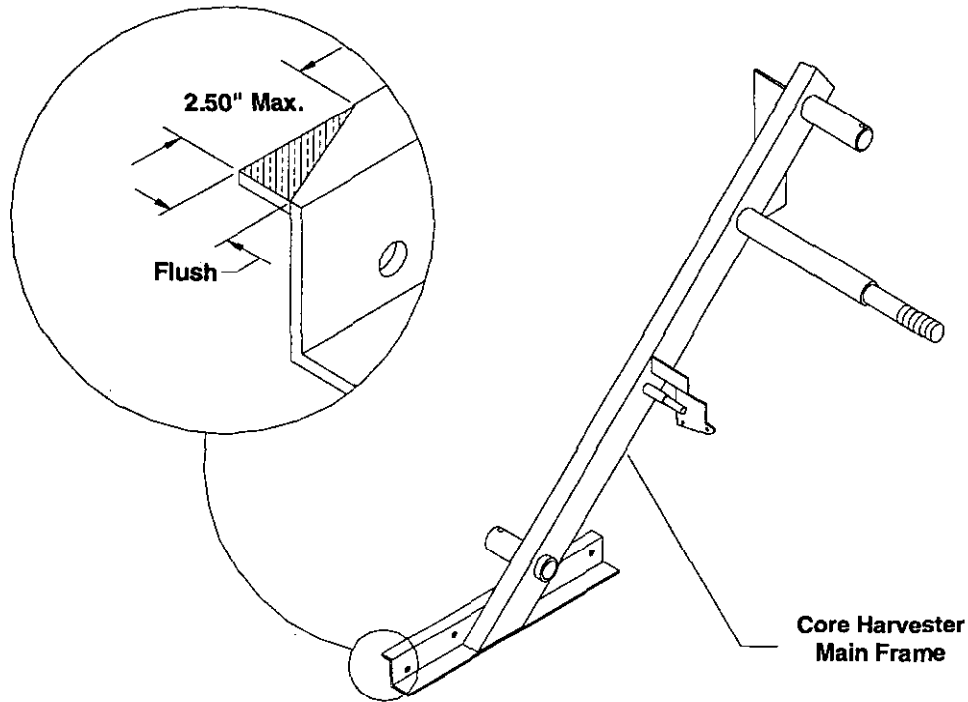

Figure 6
11. Turn the front tires of the Workman right and left to assure tire clearance with the bottom of the Core Harvester. If the tire does not clear, a section of the Core Harvester main frame must be cut off. See Fig. 6 for details.